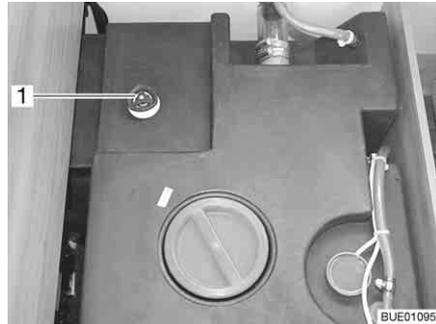

Fig. 232 Water tank with handle
- Turn the handle (Fig. 232,1) on the water tank in a clockwise direction as far as it will go.
- Turn the handle (Fig. 232,1) on the water tank in an anticlockwise direction as far as it will go. Excess water will drain away leaving 60 litres in the tank.